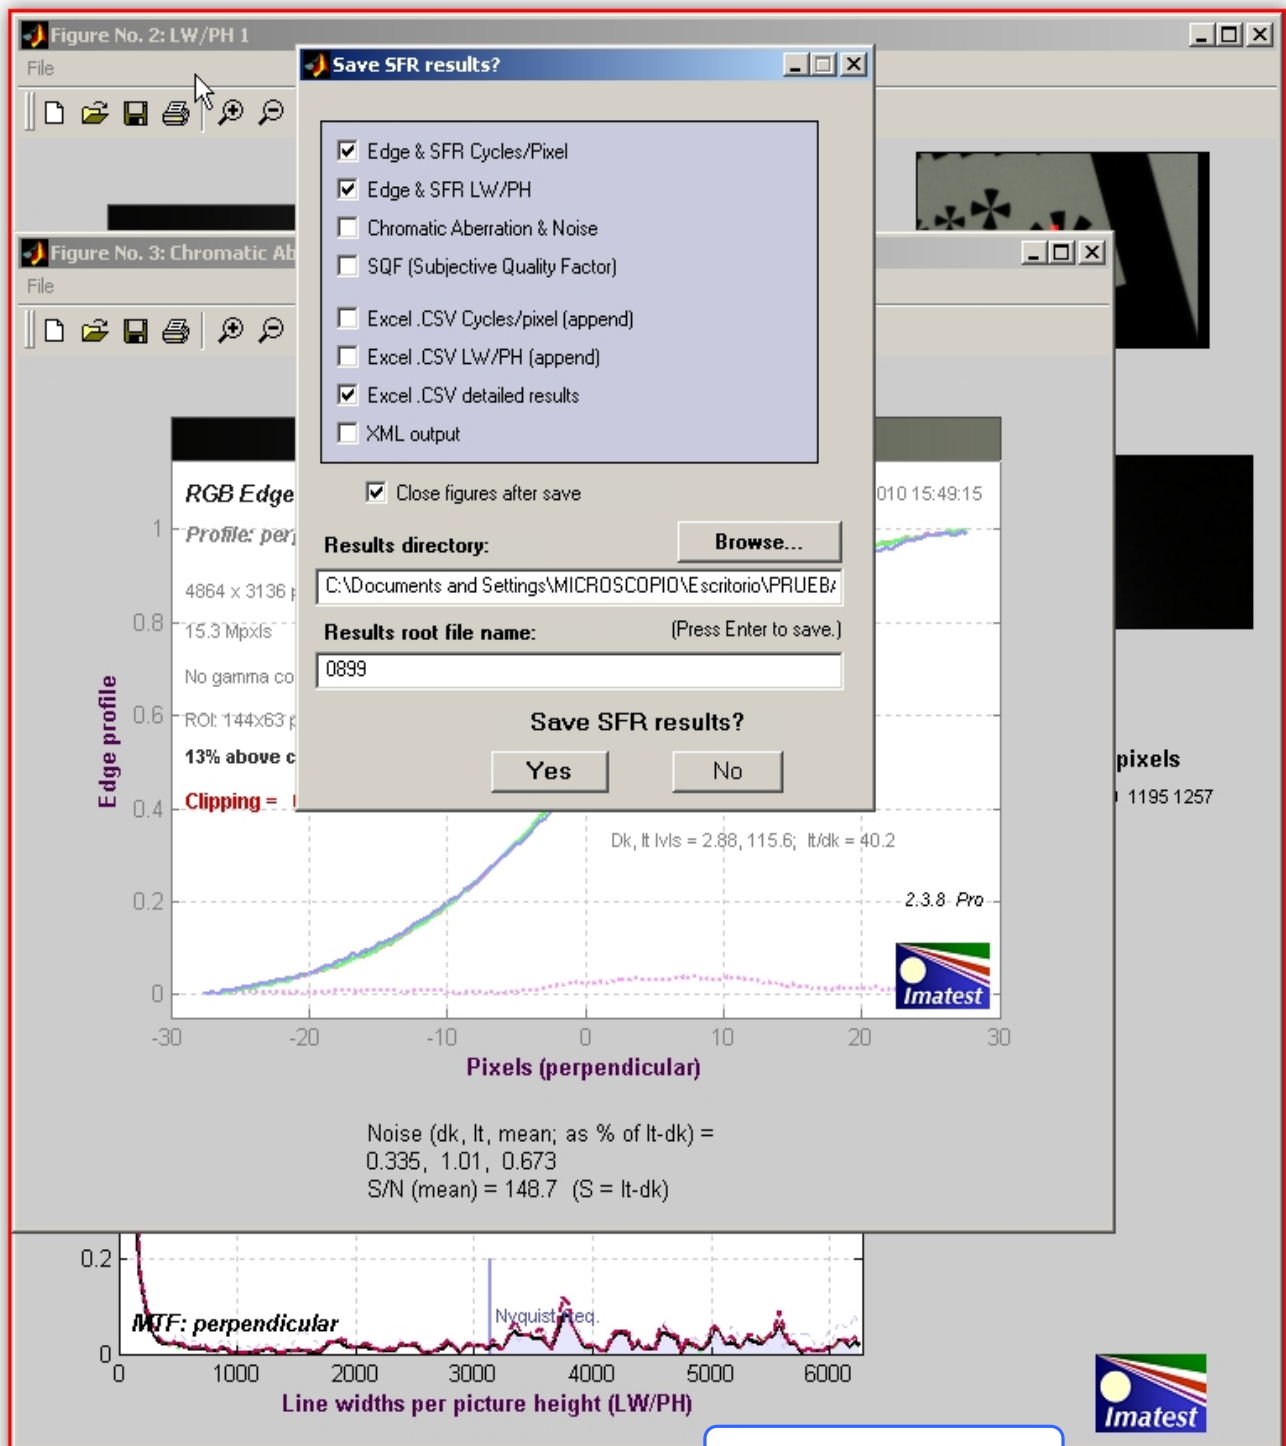

Fig. 15
- 7) Imatest™ analyzes the first ROI, and then pops up a window asking for data to be saved, its placement and main file name (Fig. 15). I have played around with these results, and I just checked what you see. It is what I found useful and not recurrent. Choose your results directory and leave “results root file name” as default. Imtests names it after picture #, and that’s what we need (remember we have a sheet of paper with picture # along with eyepiece being tested.) The first 4 rows must be checked to save plots for each point. The last four ask is raw (numeric) data to work in worksheets. Unfortunately, my Imatest™ version do not save “averaged” plots or “averaged” data, so each of the ROIs has his own plot, independently, and later on you have to combine data to calculate the average of those ROIs we selected earlier (new versions may vary!). You also check “close figures after save”. When you are finished, hit “Yes”, and Imatest™ will begin to make same calculations for rest of ROIs.